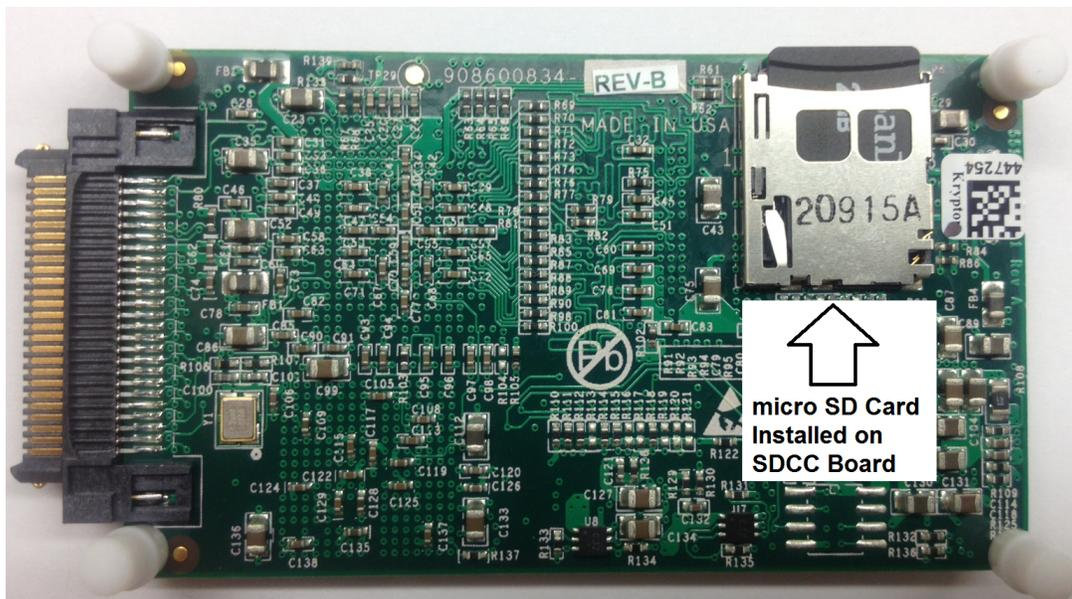

Figure 5. Bottom View of SDCC Board with microSD Memory Card Installed
Figure 5 shows the bottom view of the SDCC controller board with the microSD card installed.
- Step 1. Verify the microSD card is installed on the back of the SDCC board, as shown in Figure 5.